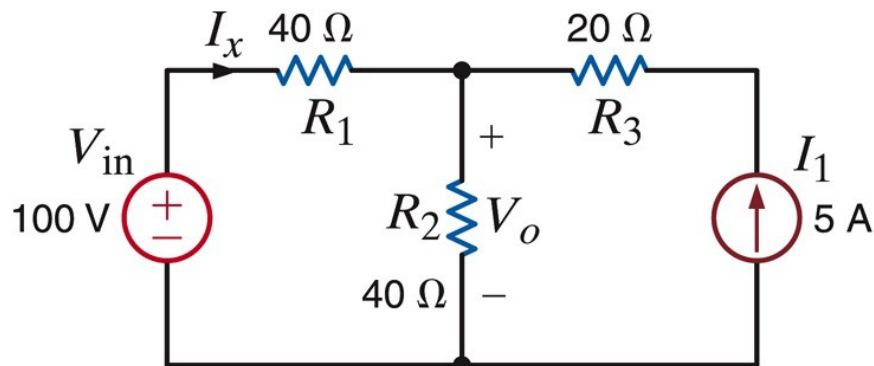

Figure 27: Circuit for Exercise 1
1. Use MultiSim to find  $V_o$  and  $I_x$  in the circuit in Fig. 27. Include a screenshot of the schematic and the simulation results.